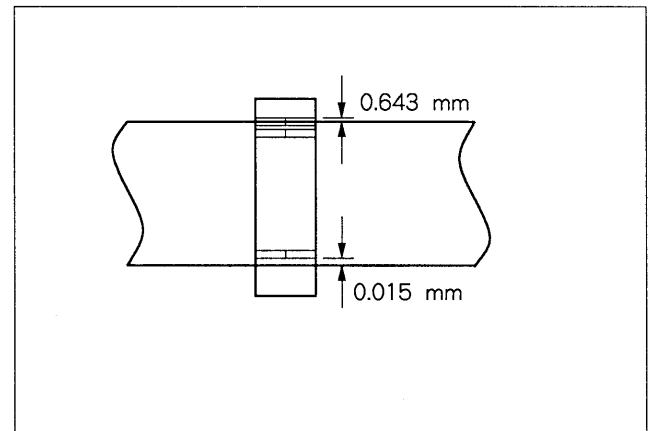

Fig. 9-9-2. Audio Erase Head Height Adjustment (2)
2. Turn the height adjustment screw and adjust the head height. As for height of the head, refer to Fig. 9-9-2.